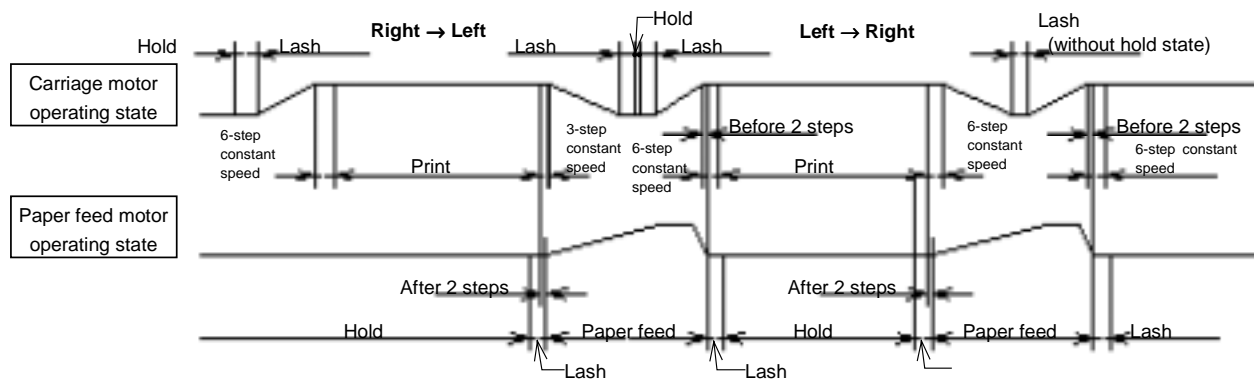

Figure 3.2.1
1) Figure 3.2.1 shows an example of the control of the carriage motor and the paper feed motor.